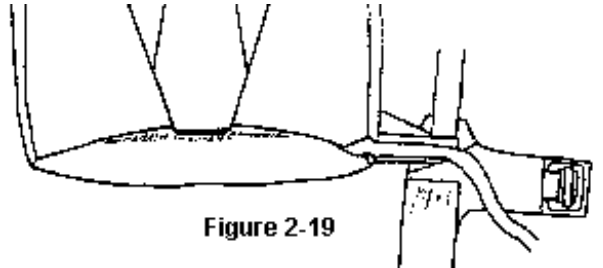

Figure 2-17
Step 22 Close pin protector flap as shown in *Figure 2-17*.